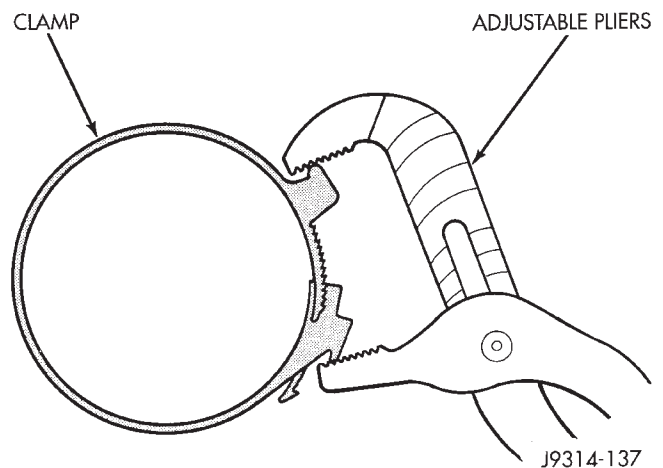

Fig. 56 Clamp Installation
- (1) Install air cleaner element into housing.
- (2) Install air cleaner cover to housing (three clips). Be sure cover is properly seated to air cleaner housing.
- (3) Install air tube and clamp to cover. Compress clamp snugly with adjustable pliers as shown in (Fig. 56).